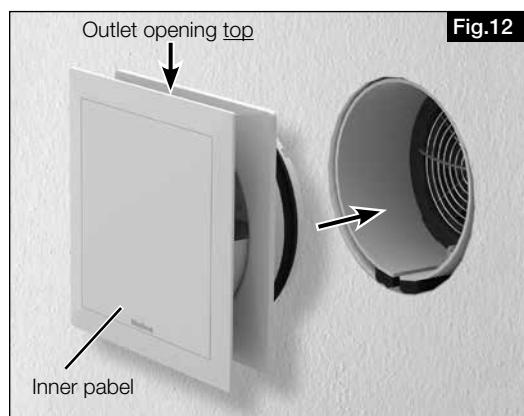

Fig.12
**INSTALLATION STEP 3:****- Inner panel**The inner panel is completely open upon delivery and the outlet opening is at the **top** (see Fig. 12).**Pressing the inner panel will damage the connection cable!**
1. Insert the inner panel (open) into the wall mounting sleeve (see Fig. 12).